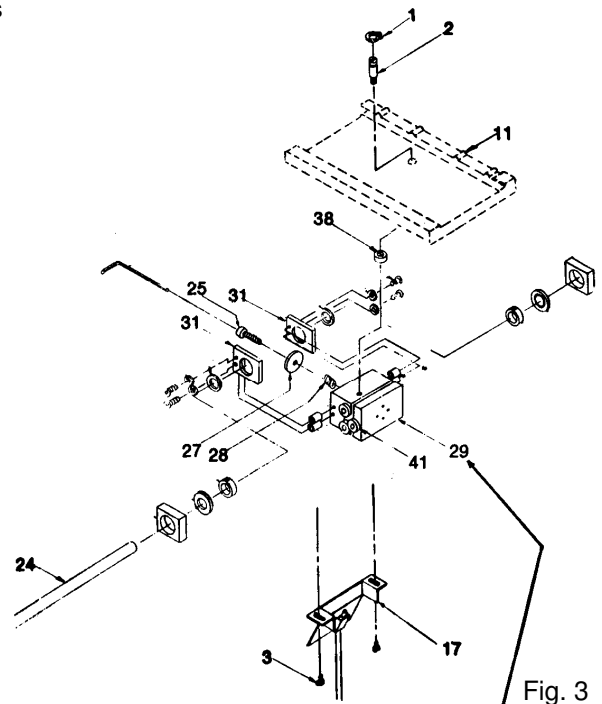
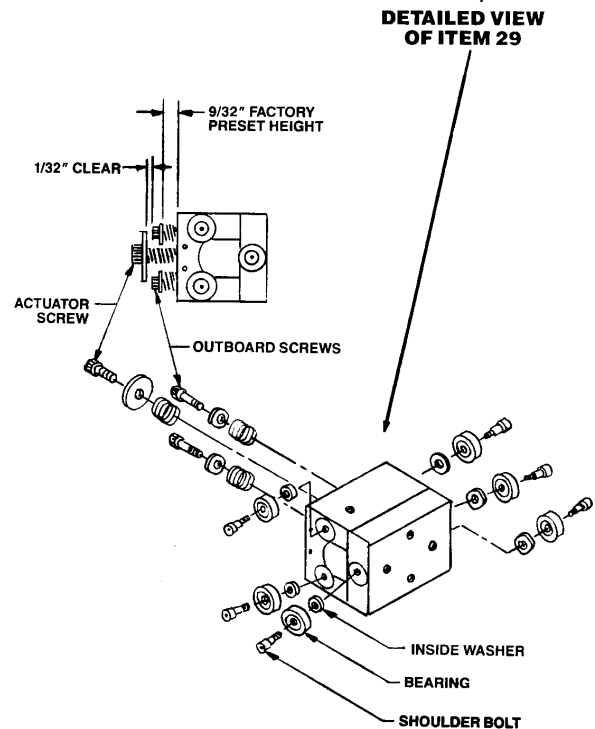
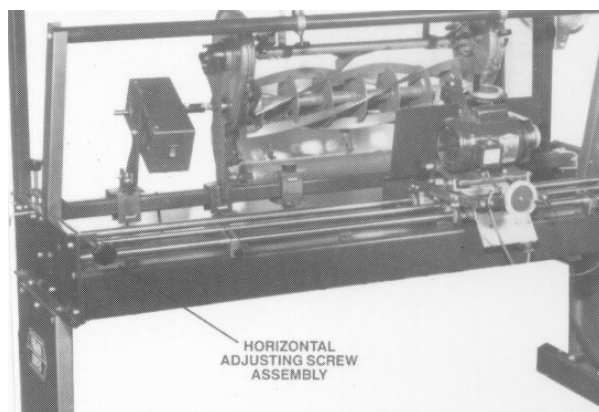
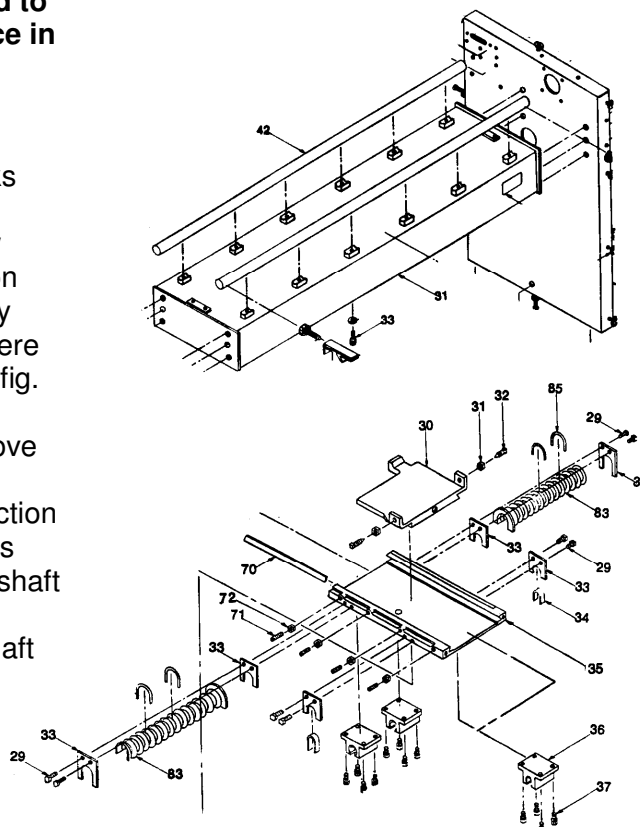

Fig. 3
Fig. 4
Fig. 5
Fig. 6
STEP 1- Unscrew the pin driver (item 2) that passes through the self aligning bearing, (item 38) in the carriage (item 11) and unscrew where it is threaded in to the actuator block (fig. 3). Slide the carriage off to one side to expose the actuator.
STEP 2- Turn the actuator screw (item 25) as much as required clockwise to disengage the bearings from the drive shaft so it moves freely.
STEP 3- Remove the two outboard seal mounts (item 31).
STEP 4- Remove shoulder bolts (fig. 4) fastening the bearings (item 41) to the actuator block (item 29). Remove the old bearings and discard, saving the inside washer (fig. 4). Inspect the hole that the bearing and shoulder bolt were removed from and the actuator bore for foreign material. If any is observed, thoroughly clean.
STEP 5- Turn actuator screw (item 25) counterclockwise until all 6 bearings are in contact with the drive shaft (item 24). The actuator screw washer (item 27) should be 1/32" clear of the outboard screw heads. (see fig 4)
STEP 6- Remount the outboard seal mounts (item 31) making sure the seal is concentric to the carriage drive shaft (item 24). Also square up the seal mount blocks (item 31) to the actuator block (item 29) within 1/32".
STEP 7- Slide the carriage (item 11) over the actuator block (item 29) to line up the hole in the carriage with the tapped hole in actuator. Insert the pin driver (item 2) through self aligning bearings (item 38) and tighten.
STEP 8- Using a spring scale, set the scale up to pull on the carriage parallel to actuator drive shaft (item 24). Then while holding the drive shaft from rotating, pull on carriage; the pull force should be from 15 lbs. To 45 lbs., target 30 lbs. Force. (See step 9 for readjustment if necessary).
STEP 9- If readjustment is required to achieve pull force within specification, with actuator bearings engaged to drive shaft, readjust the two outboard screws with springs (fig. 4) that hold the actuator together. To reach these screws, the actuator screw, washer and spring must be removed. Turn each screw an equal amount when resetting for more or less tension, clockwise is more tension. Repeat Step 8 and verify pull force. Continue to adjust until within specification. The factory preadjusted tension is 9/32" from under the washer holding the spring to the actuator block. This should give the 15 to 45 lbs. Carriage pull force specified. When adjustment is correct reinstall the actuator screw (fig. 3 item 25) with its spring (fig. 3 item 28) and flatwasher (fig. 3 item 27) and tighten to within 1/32" of the outboard screw heads.
STEP 1- Loosen & remove the limit switch bracket (item 17, fig. 3) and place it as the electrical lead will allow. Unplug the electrical lead from the motor and place it to one side.
On the 3096 model only, release *all* spring tension by removing the horizontal adjusting screw assembly. On the 3096 model only, remove the rubber boots from both sides of the carriage on the front shaft. (see fig. 5)
Remove pin driver (item 2, fig. 3) from linear actuator (item 29, fig. 3). Then remove the screws (item 33, fig. 6) from the front and rear carriage shafts. Then slide the carriage assembly to the right end of the carriage shafts (fig. 6) Lift the carriage assembly and carriage shafts (fig. 6), slide the carriage assembly to the right off first the rear carriage shaft and then off the front shaft. The shafts must be gripped by hand and pulled left while the carriage assembly is moved right. After removing the carriage assembly, lay it on its side on the floor.
STEP 2- Remove the 3 linear bearing pillow blocks (item 12, fig. 6) and discard.
STEP 3- Insert the three new linear bearing pillow blocks (item 12, fig. 6). Adjust the tension screw on the side of each bearing block so when you radially rotate the pillow block around the carriage shaft there should be no free play between bearing (item 12, fig. 6) and carriage shaft (item 42, fig. 6). Repeat this adjustment to all three pillow blocks and then remove the pillow blocks from the carriage shaft.
STEP 4- Assemble the three linear bearing pillow blocks (item 12, fig. 6) loosely to carriage (item 11, fig. 6) with the tension adjustment screws pointing outward. Insert the previously cleaned carriage shaft (item 42, fig. 6) thru the front two linear bearing pillow blocks and align them to each other with a straight edge underneath the carriage and tighten down the socket head screws (item 13, fig. 6). Lift the carriage assembly back onto the main grinder base and solidly bolt down the front carriage shaft (item 42, fig. 6) with screws (item 33, fig. 6).
STEP 5- To set the distance between the front pillow blocks, already tight, and the rear pillow block, slide the rear carriage shafts thru the pillow block and position it into its "V" groove bosses. Tighten the 2 socket head screws (item 13, fig. 6) visible from the rear on pillow block (item 12, fig. 6). Raise rear carriage shaft and carriage, position the carriage between V-groove bosses on the main base (item 31, fig. 6) and tighten the other 2 socket head screws. Lower and bolt down the rear carriage shaft (item 42, fig. 6) solidly in the "V" groove bosses with screws (item 33, fig. 6). The bearing tension is correct when you try to lift the carriage and can feel no carriage movement, free play up and down. Also, when pulling the carriage in the traversing direction, there should be only approximately a 3 lb. force using a scale system similar to Step 8 of Linear Actuator Bearing Replacement. To double check the assembly, slide the carriage assembly from "end of travel" to "end of travel," it should have very uniform resistance through the full range of travel. When bearing tension is correct, reinstall linear actuator pin driver (item 2 fig. 5).
STEP 6- Reinstall the limit switch bracket and reconnect the electrical lead to the motor. On the 3096 model only, reinstall the rubber boots on the front shaft and reinstall the horizontal adjusting screw assembly (see fig. 5).